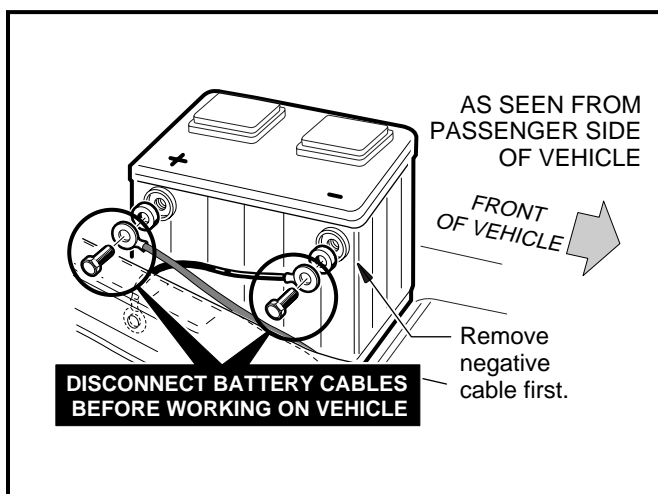

Figure 12-1 Battery Disconnect
- DISCONNECT BATTERY CABLES, NEGATIVE (–) FIRST (**FIGURE 12-1, PAGE 12-2**).
1. Disconnect the battery as shown ((**Figure 12-1, Page 12-2**).